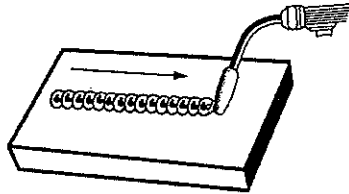

Figure 10. Stringer Weld Bead
1. The **STRINGER BEAD** (Figure 10) is formed by traveling with the gun in a straight line while keeping the wire and nozzle centered over the weld joint. This is the easiest type of bead to make.